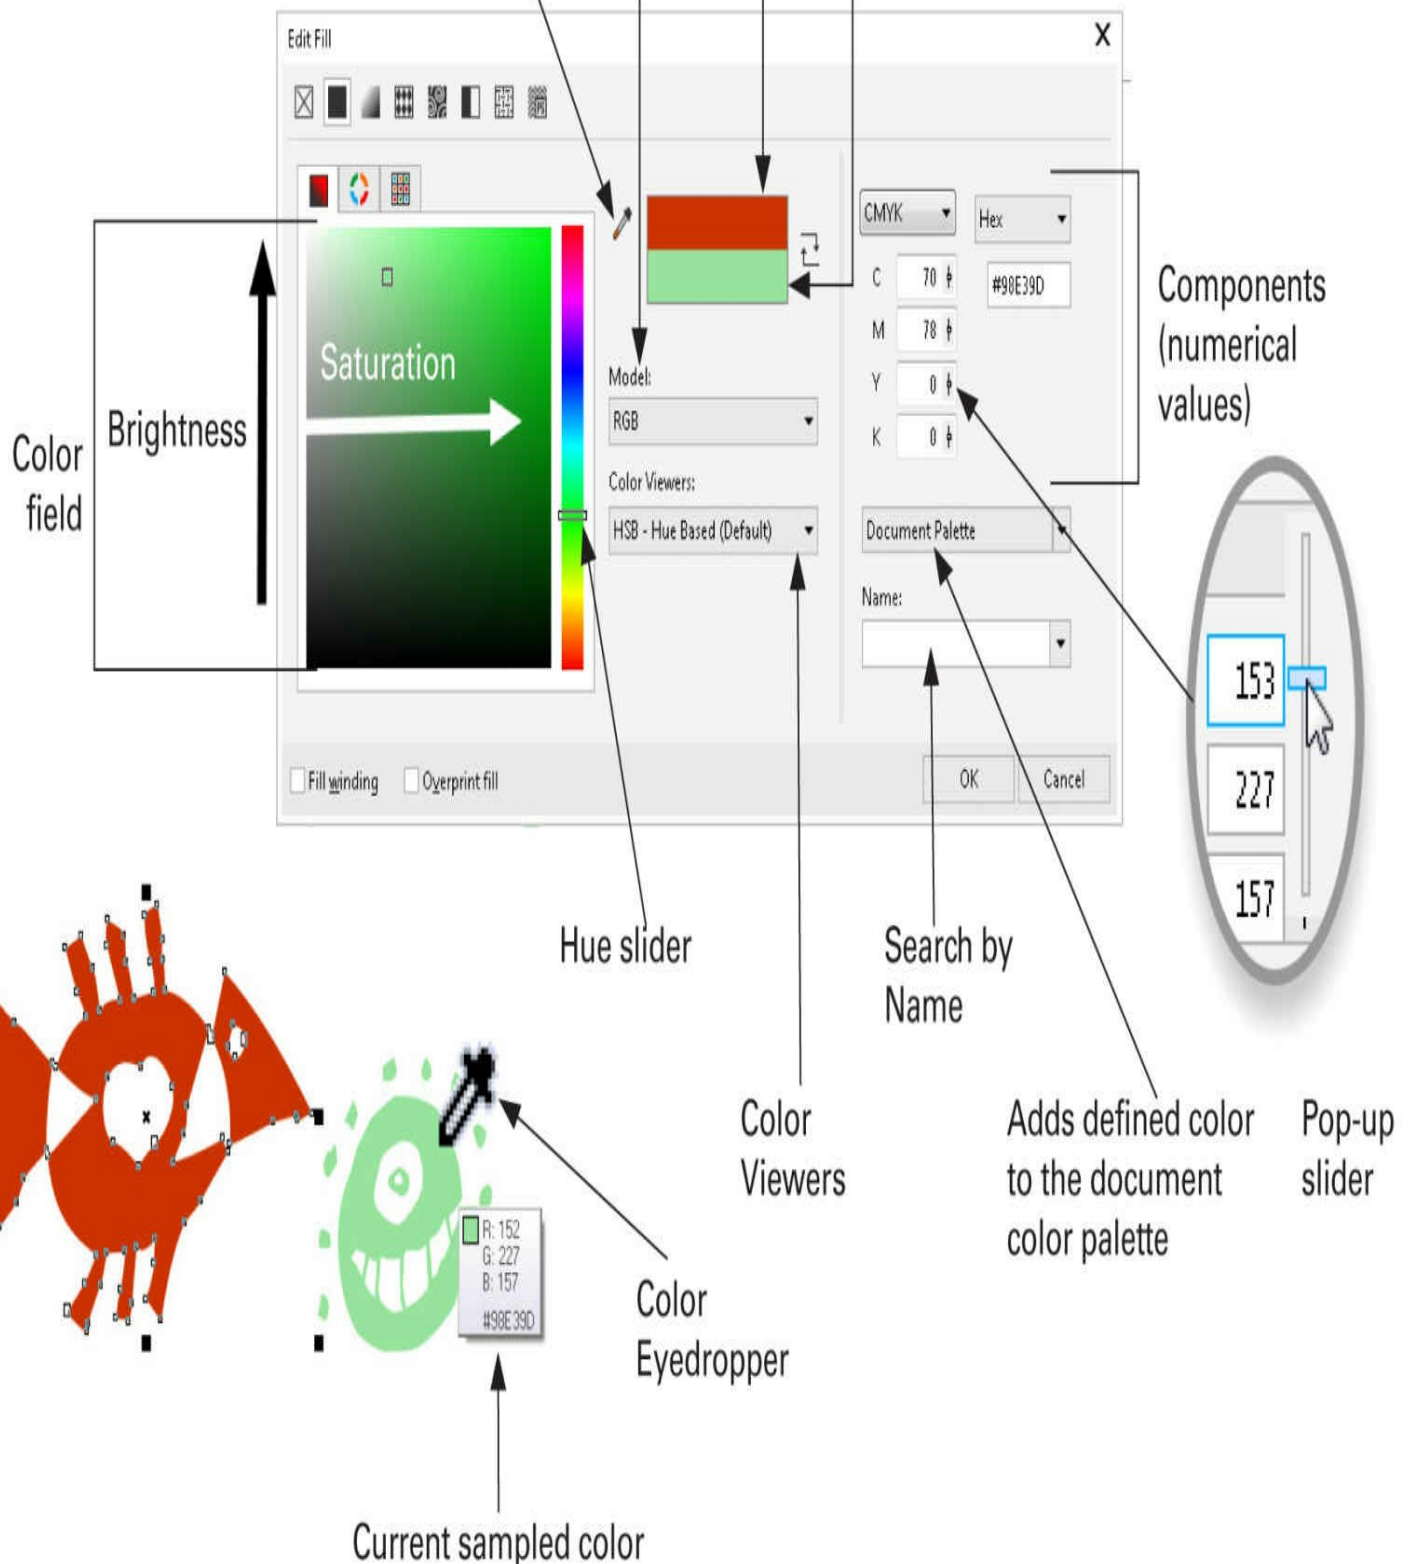

FIGURE 15-1 The Uniform Fill part of the Edit Fill dialog is one of several areas from which you can pick colors in CorelDRAW.
Because a color model only does one thing—it *shows a mathematical relationship between values that are intangible*—you can use any color model to visualize the relationship among red, green, and blue, with the goal being to make color picking and color relationships as painless as possible to perform! Figure 15-1 shows the default view of the Uniform Fill dialog. When you first install CorelDRAW, it's optimized for commercial printing, both with your view of the drawing window and the CMYK color model offered on the Uniform Fill dialog. If you do web work and no print work, this chapter walks you through how to customize your onscreen display and your color choices for the RGB color model.
Let's look at these controls in Figure 15-1 one at a time. It's quite likely that a color attribute you're looking for right now can be defined in this dialog.
- **Components** The field on the right provides a numerical breakdown of the current color, as expressed in the components of the current color model. Therefore, in Figure 15-1, you can see that the current color is purplish, and if you choose CMYK from the Components area drop-down list, you'll see this color's closest numerical equivalent in CMYK color mode is C: 70, M: 78, Y: 0, and K: 0. However, these values are not static; in fact, when you click the icon to the right of any value (the icon that looks like a slider), a slider does indeed pop up, and you can adjust the color by dragging any component value up or down. This gives you a more precise adjustment of the filled object's color; you can also insert your cursor into the number field (it's a live field), double-click to select the entire value, and then type in a new value.